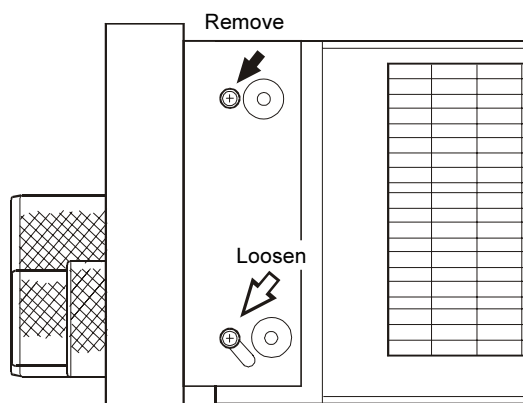

Figure 3
5. Referring to Figure 3, remove the screws (↖) at the top left and top right that hold the front panel assembly in place, and loosen the two screws (↔) at the bottom left and bottom right, so they can hold the front panel as it is folded forward.